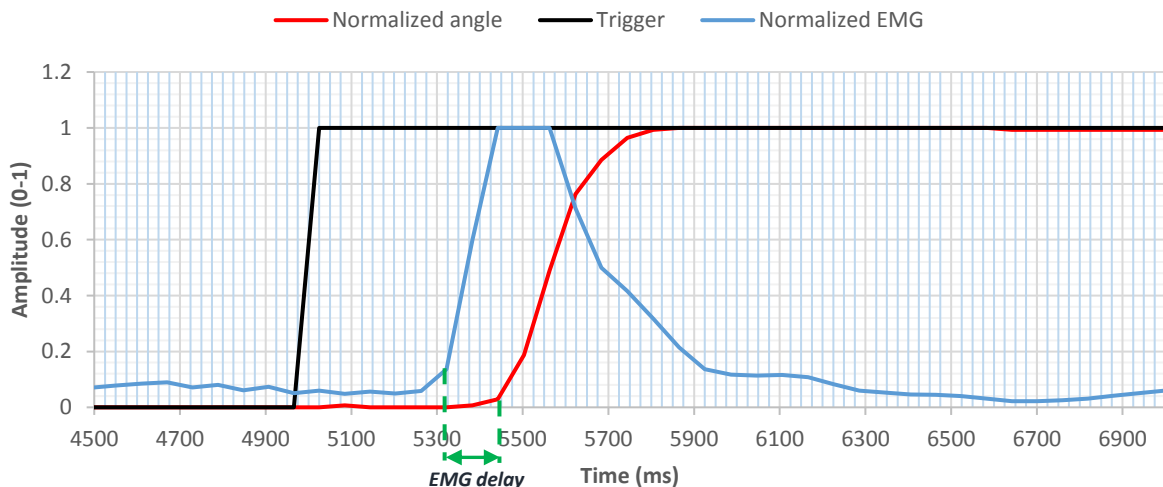

Figure 6: Example plot of EMG signal, joint angle and trigger showing electromechanical delay.
- 9) Plot the column with EMG data and the column with joint angle data versus time. Normally this will show a small delay between the onset of EMG activity and the first change in joint angle (figure 6). It helps to normalize the angle and EMG data such that these can be plotted on an axis from 0 to 1. It should be taken into account that the sampling rate of the Arduino board is relatively low so the delay cannot be measured very accurately.